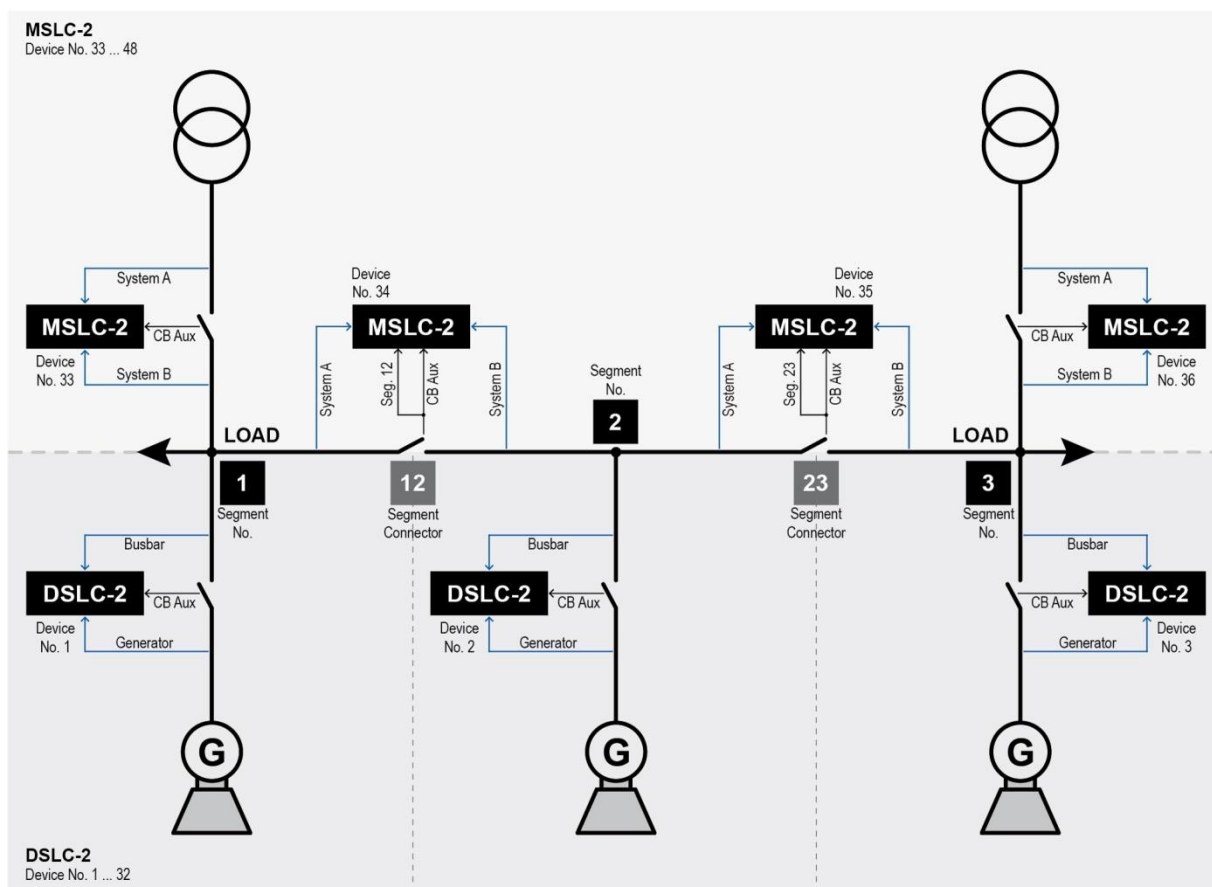

Figure 3-117: Example of an online diagram with segment numbers and segment connector feedbacks
2. Draw the measurement systems arrows between unit and bars (refer to Figure 3-117). Please consider following rules: